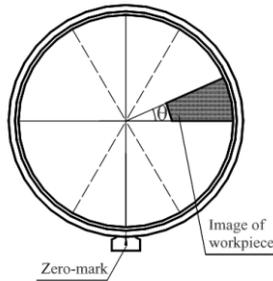

Fig.12
--Adjust the tip of the angle into the graduated center of the screen (See Fig. 12).
--Turn the screen and aim at one edge of the measuring angle with a random line. Fig.12 Angle measurement.